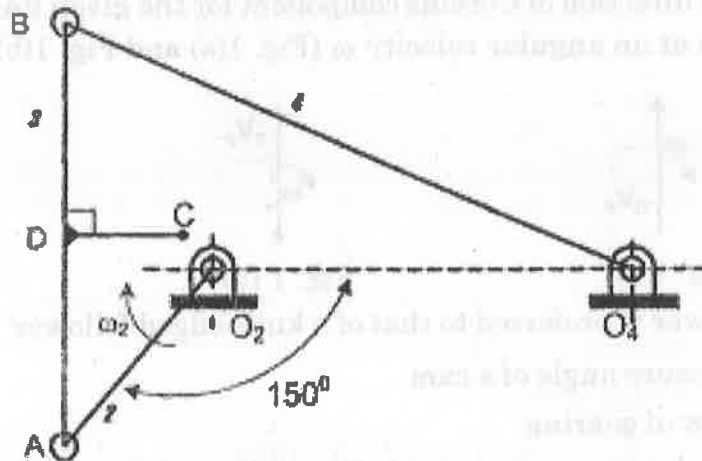

Fig. 3
- ii) With neat sketches, explain the Peaucellier and Watt mechanisms of straight line generation. (8)
12. a) Crank 2 of the push-link mechanism shown in Fig. 3 is driven at $\omega_2 = 60 \text{ rad/s}$ clockwise. Find the velocities of points B and C and the angular velocities of links 3 and 4.